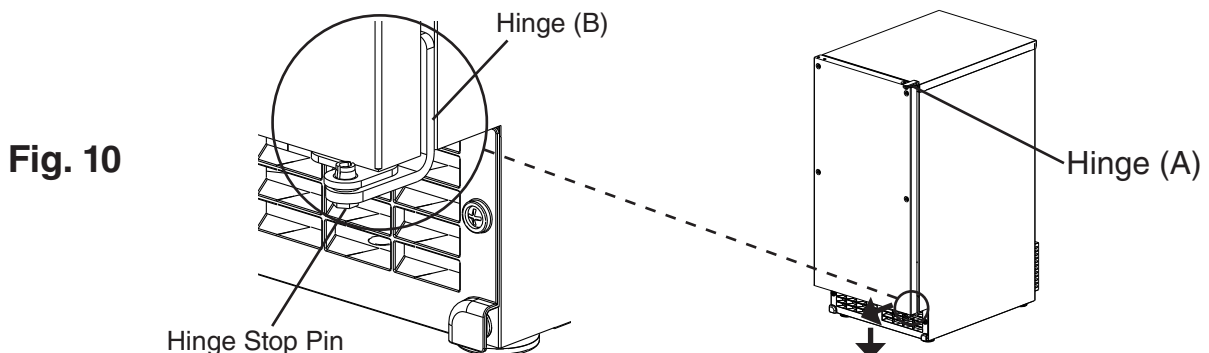

**Fig. 8**
- 1) Rout a channel at the bottom of the overlay panel to the proper dimensions. See "(C) Routed Area" in the specification diagram and Fig. 8.